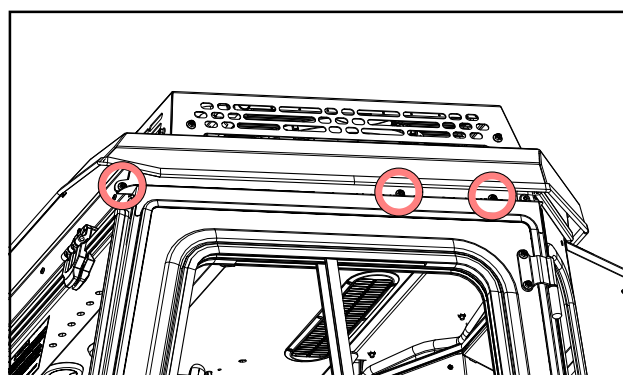

Fig. 3.4 (Fasten Side Frame)
- 3.4** Adjust the position of the roof such that the rubber of the cab's rear panel of the roof is in contact with the rear panel of the roof for proper sealing. Install hardware through the side panels of the roof and the side frame of the cab, the location is shown with circles in Figure 3.4.